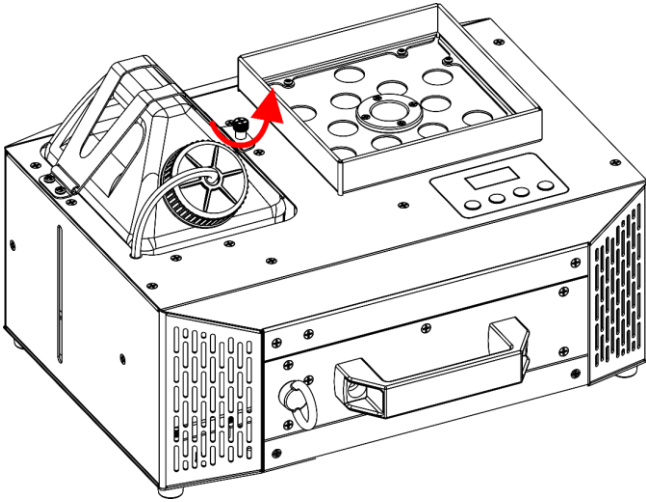

Fig. 38
- 02) Unscrew the **safety screw for tank bracket (04)**, as shown in Fig. 38.